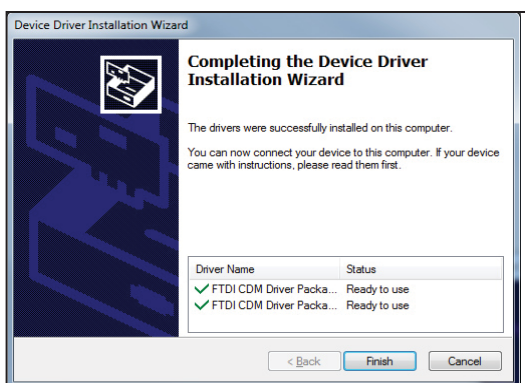

Fig. 5 Complete Installation
4. Click Complete to finish installing the driver (Fig. 5).